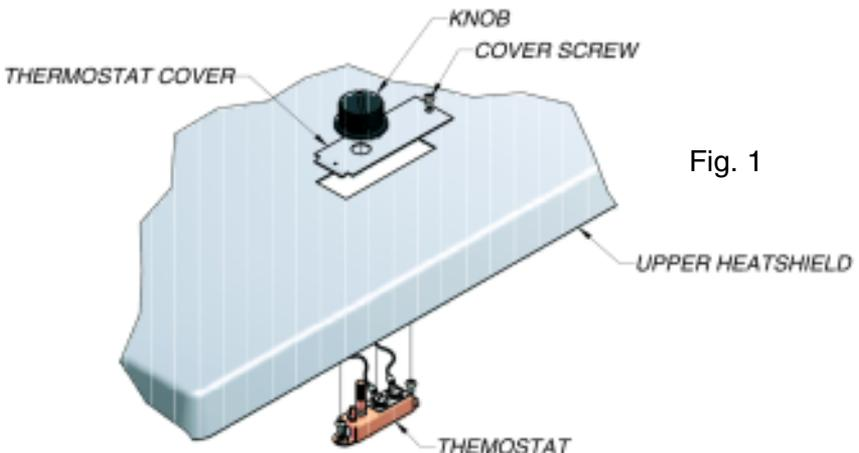

Fig. 1
1. Loosen recessed set screw in the thermostat knob and remove knob by pulling knob upward. **Fig. 1, Pg. 8**